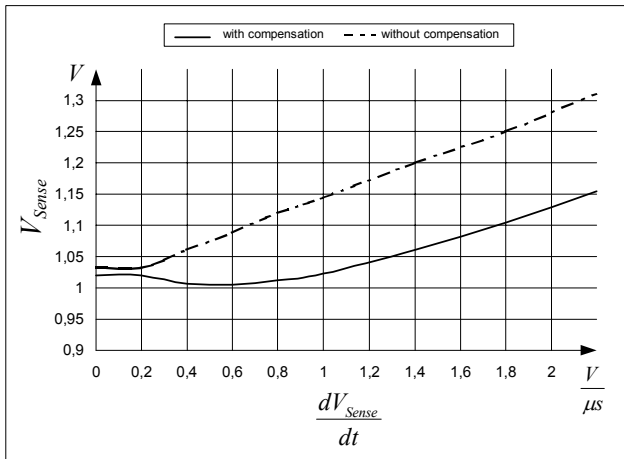

Figure 12 Overcurrent Shutdown
E.g.  $I_{peak} = 0.5A$  with  $R_{Sense} = 2$ . Without Propagation Delay Compensation the current sense threshold is set to a static voltage level  $V_{csth} = 1V$ . A current ramp of  $dI/dt = 0.4A/\mu s$ , that means  $dV_{Sense}/dt = 0.8V/\mu s$ , and a propagation delay time of i.e.  $t_{Propagation\ Delay} = 180ns$  leads then to an  $I_{peak}$  overshoot of 14.4%. By means of propagation delay compensation the overshoot is only about 2% (see Figure 12).